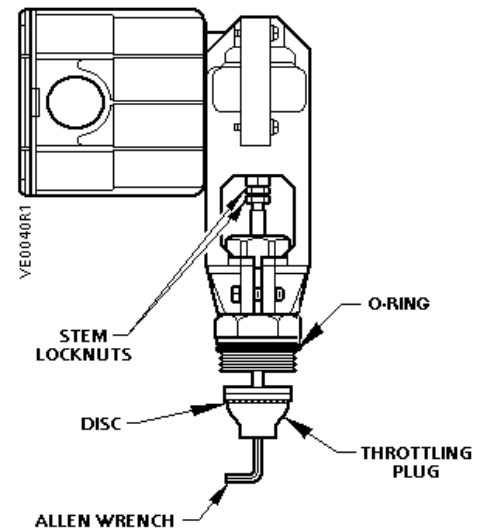

Figure 3. Removing the Throttle Plug on VE 339 Two-way Valve.
4. Remove the throttle plug with an Allen wrench. Use a wrench on the stem locknuts, to keep the stem from moving, as shown in Figure 3.